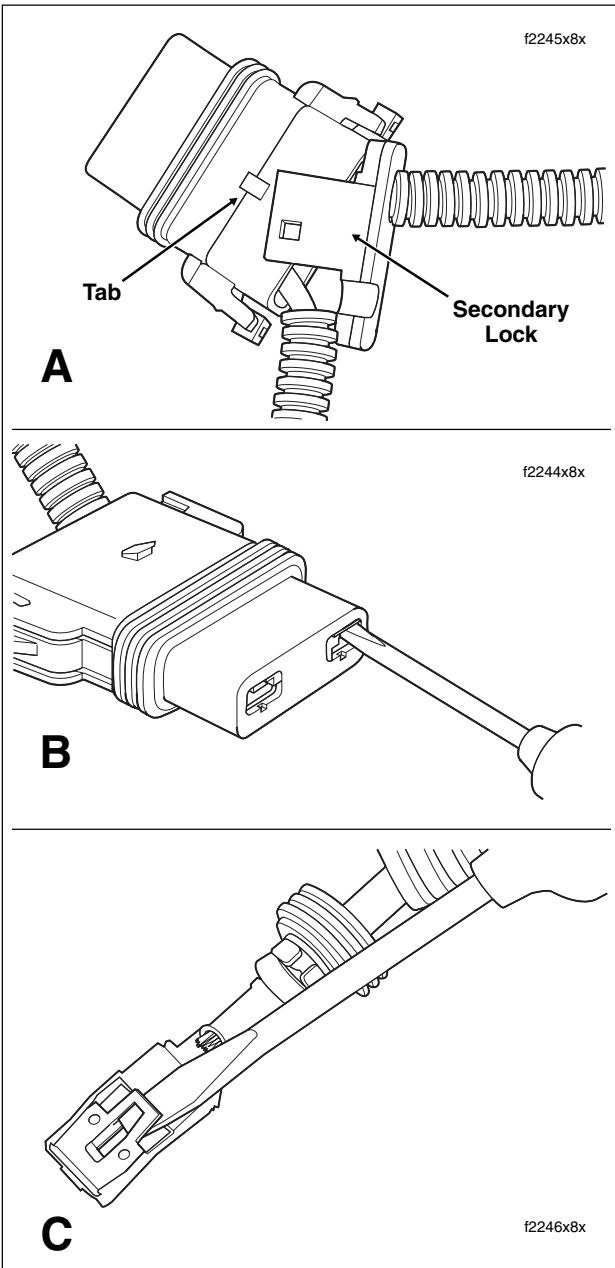

Figure 8-42. Remove Socket Terminals
- a. Gently pull sides of secondary lock away from socket housing to disengage slots from tabs on socket housing. See A of Figure 8-42. Free secondary lock from cables and set aside.
- b. Take note of the opening on one side of the socket terminal. Gently insert flat blade of pick (Snap-On TT600-3) or small screwdriver into opening until it stops. Pivot the pick toward the terminal body and hold in position. See B of Figure 8-42.
- a. Carefully bend tang outward away from the terminal body. See C of Figure 8-42.